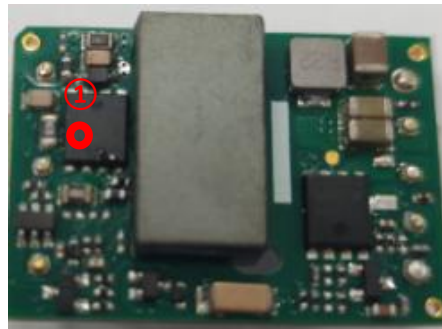

Fig. 5
The thermal element is installed on the top surface of the product and dissipated heat into the surrounding environment by conduction, convection and radiation, it need to adequate heat dissipation conditions to ensure reliable operation of the product. By measuring the temperature of the thermal test point ① in Fig.5, it can be verified whether the heat dissipation conditions are met.